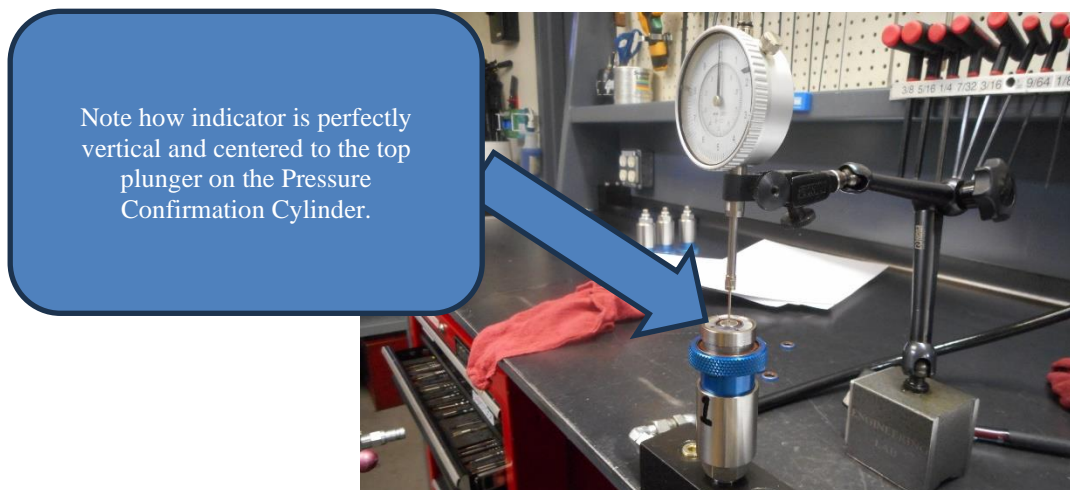

FIGURE 2:
STEP 4A: Ensure that the system pressure is at zero PSI. Position the Distance Indicator Stylus on the top of the Pressure Confirmation Cylinder's main plunger. Verify that the stylus is as concentric to the plunger as possible and aligned in the same plane. Refer to Figure 2 for guidance.